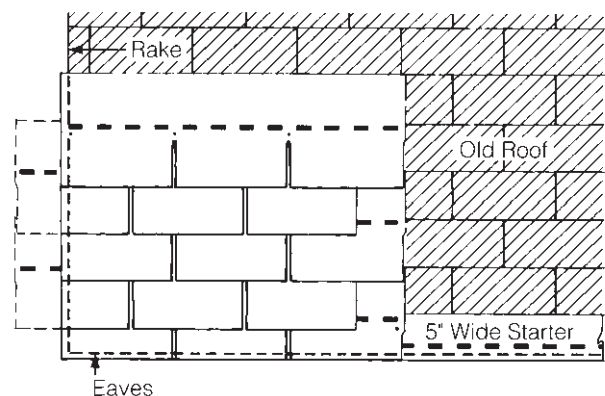

Figure 12-22: Vertical Racking, Nested.
2. Cut 6" off one side of the first starter shingle and install the 30" piece over the first course of the old shingles, at the lower left corner. This, and all other shingles, must nest with the butt edges of the old shingles (Figure 12-22).
2. Align the top edge of the 10" strips so they butt up (nest) against the tabs of the shingles in the old third course (Figure 12-22).
1. Cut 6" off the left end of a full shingle. Nest the top edge of this new 12" by 30" piece of shingle up against the bottom edge of the shingles in the old fourth course (Figure 12-22).
1. Begin the application of succeeding courses by alternating the use of full shingles and 30" shingles (6" off the left end) up the rake in a single column (Figure 12-22).